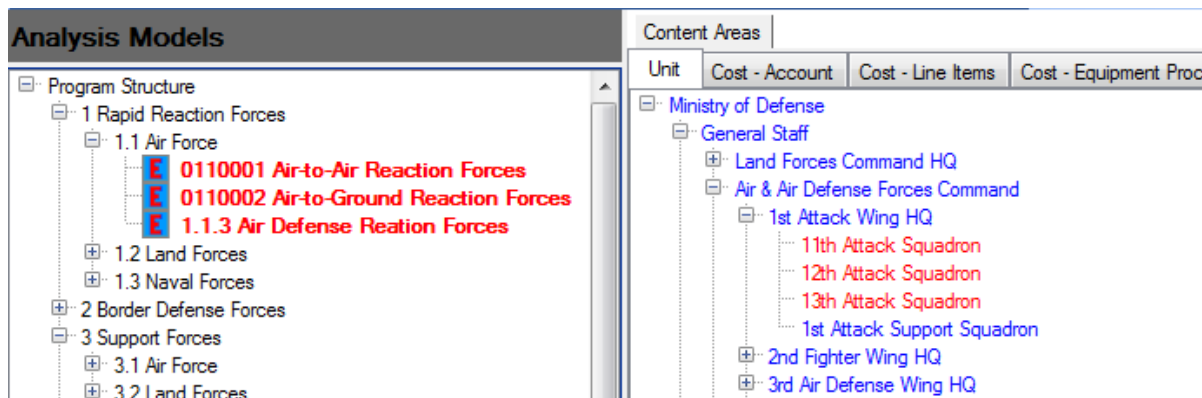

Figure 6-45. Selected Units Shown in Red
- When you hold down the **Ctrl** key and click individually on three Units to select them, the Unit names change to red text (Figure 6-45).